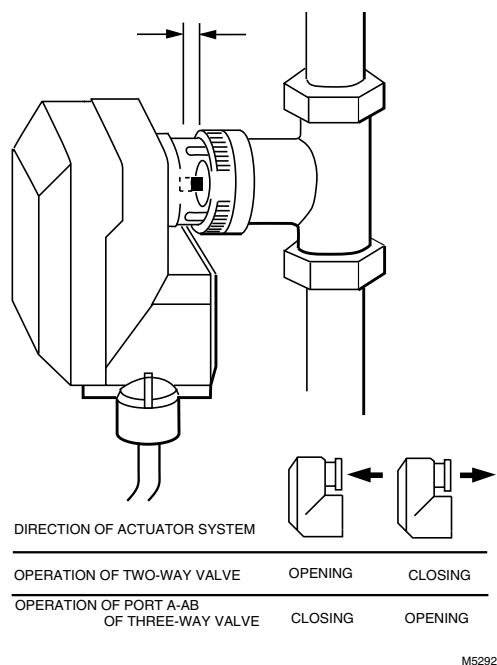

Fig. 15. Direction of M6410A/7410F Small IRC Electric Linear Valve Actuator stem during operation.
- 2 Make sure the actuator either opens or closes the valve, depending on the direction of the temperature change. See Fig. 15.
- 1 Change the Y input signal. The movement of the actuator stem (Fig. 15) indicates if the valve is opening or closing.